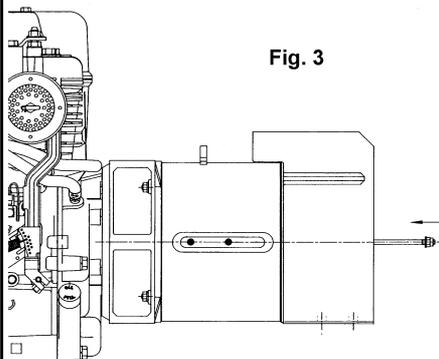

Fig. 3
-) screws the self-locking nut onto the central bolt and insert the latter into its housing (figure 3)
### SPANNUNGREGLER (Abb. 3 Seite 31)